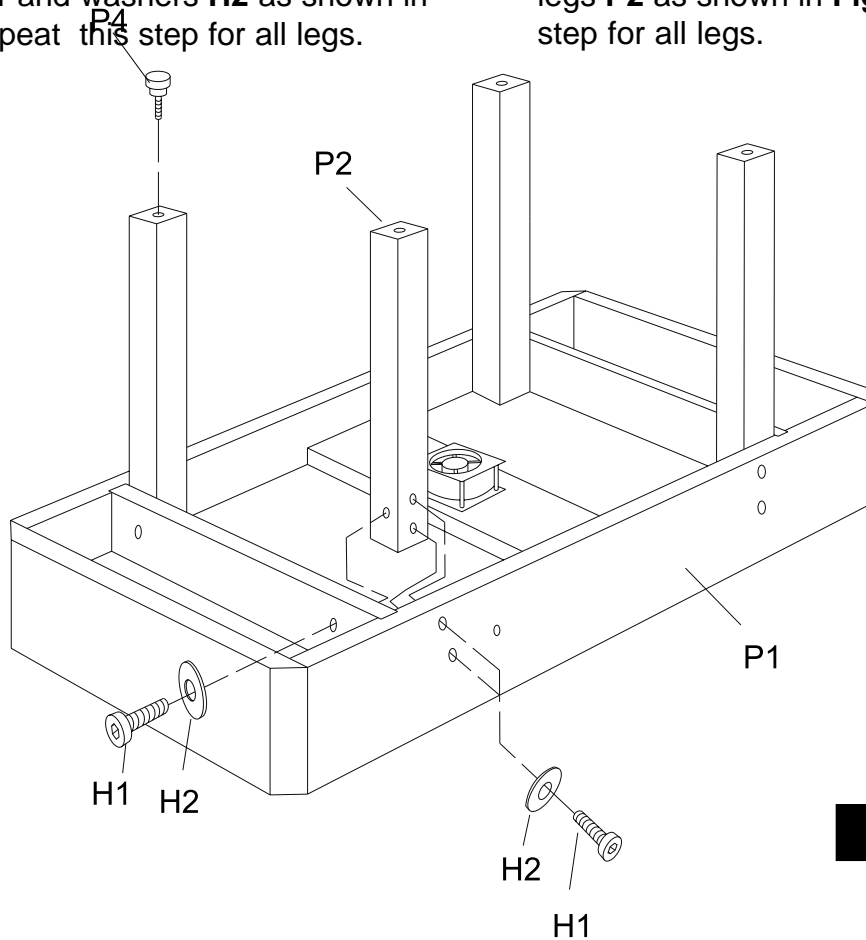

Figure 1
3. Attach the legs **P2** to the main cabinet **P1** using bolts **H1** and washers **H2** as shown in **Figure 1**. Repeat this step for all legs.
4. Attach the leg levelers **P4** to the end of the legs **P2** as shown in **Figure 1**. Repeat this step for all legs.